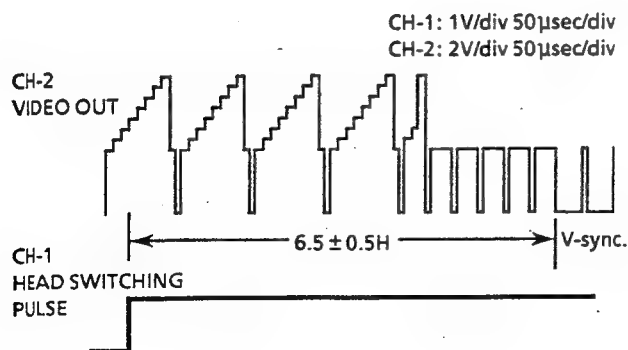

Figure 2-2.
5. Adjust R701 so that the leading edge of the head switching pulse is  $6.5H$  (lines) ahead of the vertical sync as shown in Figure 2-2.